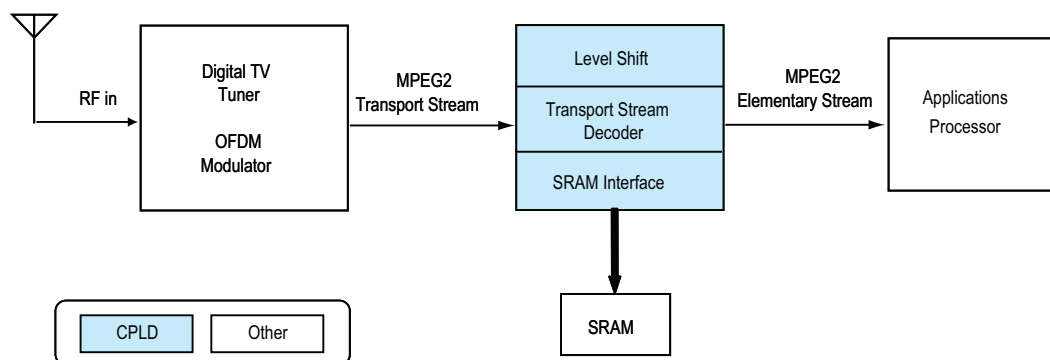

Figure 7: CPLD in a Mobile Phone
Mobile TV is broadcast using Orthogonal Frequency Division Multiplexing, a technique well suited to transmitting large amounts of digital data over radio waves. A Mobile TV enabled handset will incorporate a Digital TV Tuner that includes an OFDM modulator. The output of the Tuner/Modulator module is typically in the MPEG2 Transport Stream (TS) format. A CPLD is the ideal solution to perform the conversion from TS into the Elementary Stream (ES) that the applications processor requires to be able to use the data. There are plenty of resources available in the CPLD after implementing the decoding functionality that an SRAM interface, for caching the data, can be included. As the CoolRunner-II CPLD has two IO banks, the level shifting between the Tuner and the Applications Processor can be performed without adding extra overhead or extra cost. See Figure 7.